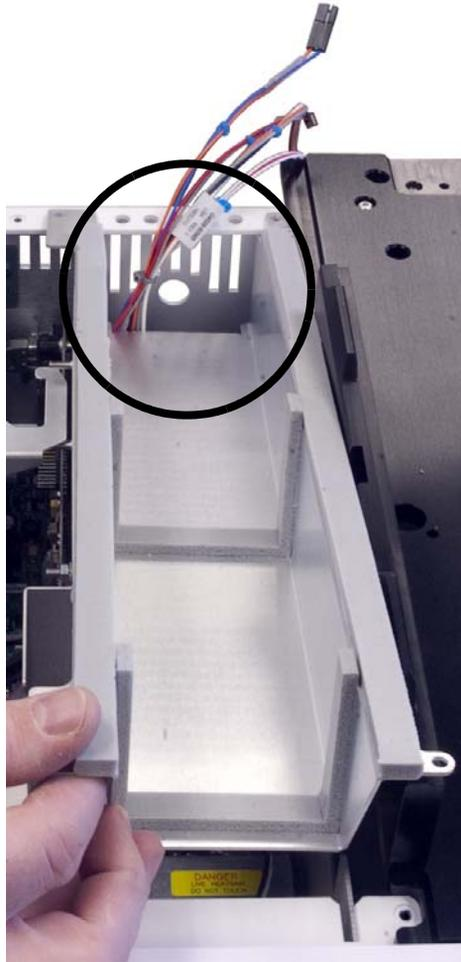

Figure 33 Installing the Peltier power control board bracket
- a** Run the cables through the opening in the back of the Peltier power control board bracket, as shown in Figure 33.